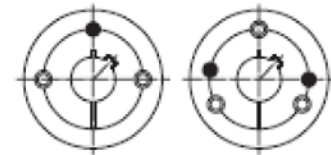

Fig. 1
2. Insert the taper bush into the element hub and line up all connecting bores. Make sure that half threaded holes coincide with half plain bores (Fig. 1).